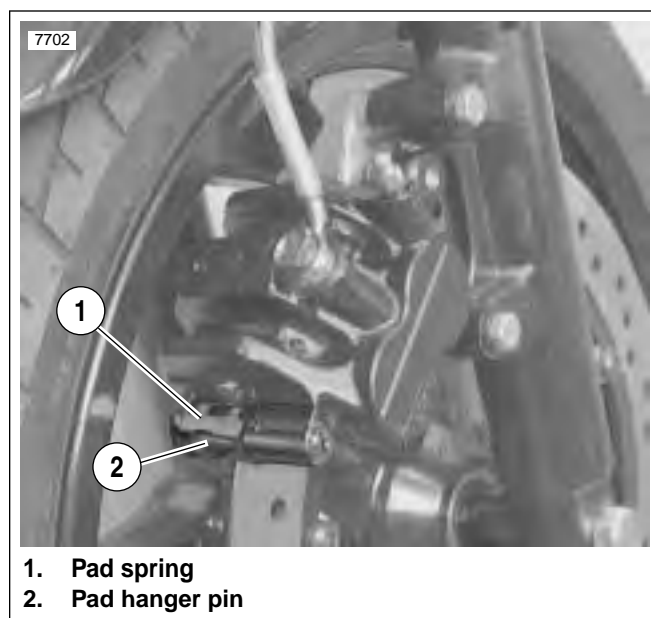

Figure 2-5. Pad Spring
- b. See Figure 2-5. Remove pad hanger pin (metric).